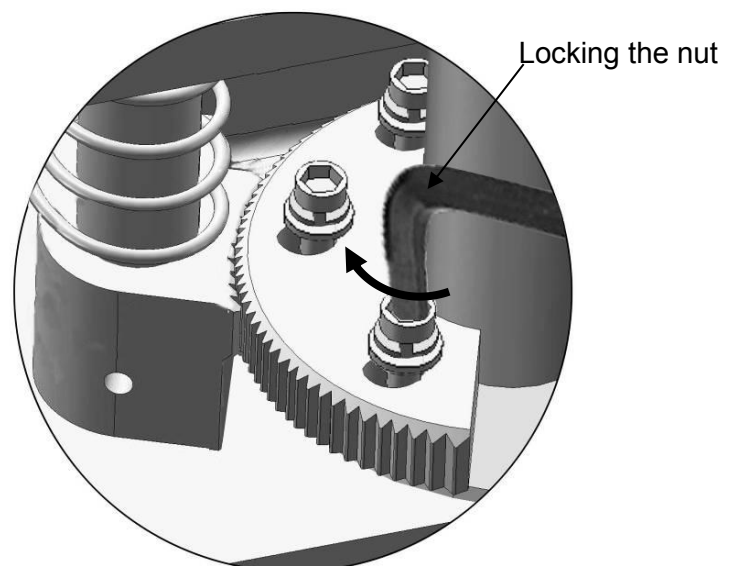

Fig. 26
4. Adjust the moon gear and arm lock to make it to be meshed, then tighten the nut of arm lock (See Fig. 26).